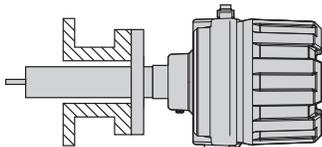

Figure 3
2. Make sure the sensor is properly oriented to the flow (refer to Figures 3 and 4) or level (refer to Figure 5).